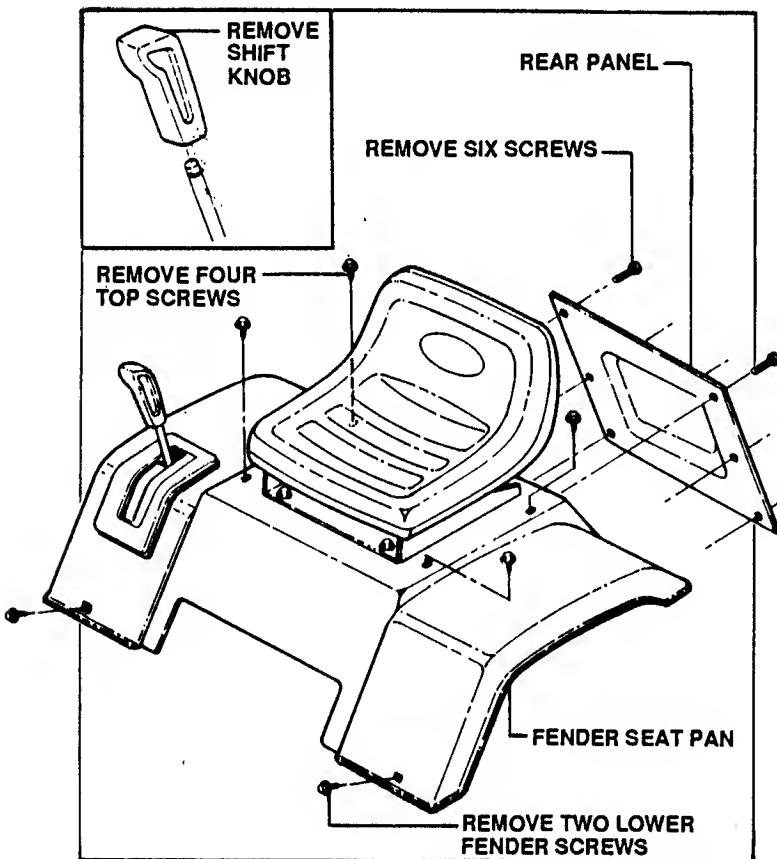

FIGURE 15
- TRANSMISSION DIFFERENTIAL: Remove rear panel or fender seat pan to gain access to differential. See Figure 15.
1. Remove six (6) screws.